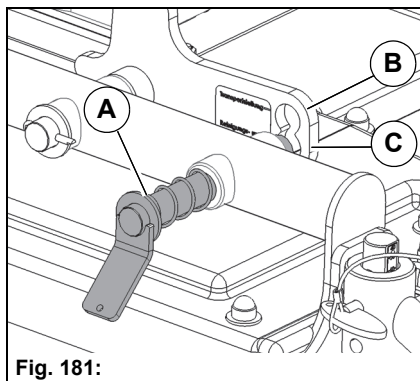

Fig. 181:
The transport protection device is located on the left side of the mower. The mower is set for the relevant operation with the mounting bolt **Fig. 181-A**. The following settings are possible:
- Transport: The mounting bolt must secure the mower in the upper position **Fig. 181-B**.
- Cleaning: The mounting bolt must secure the mower in the lower position **Fig. 181-C**.